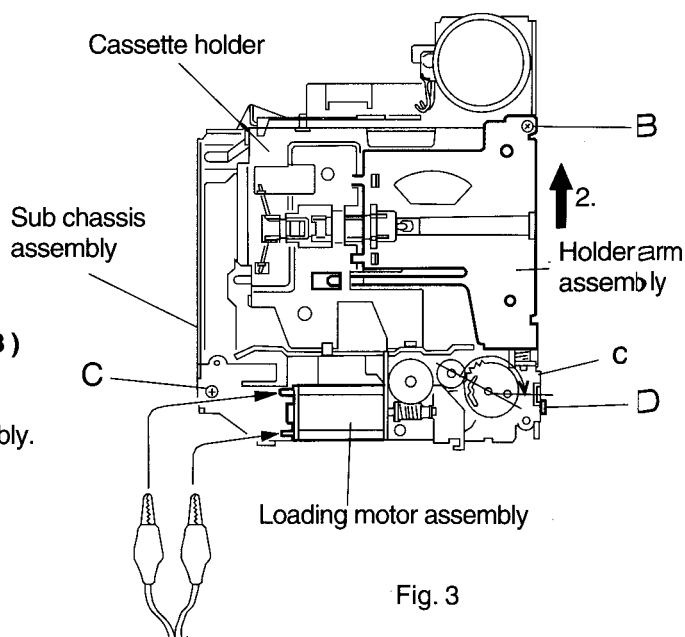

Fig. 3
■ Removing the Cassette Holder and Holder Arm Assembly (See Fig. 3)
3. Apply DC 6V to the lead wire of the loading motor assembly and turn the load gear assembly to the position shown in Fig. 3.
■ Removing the Sub Chassis Assembly (See Fig. 3)